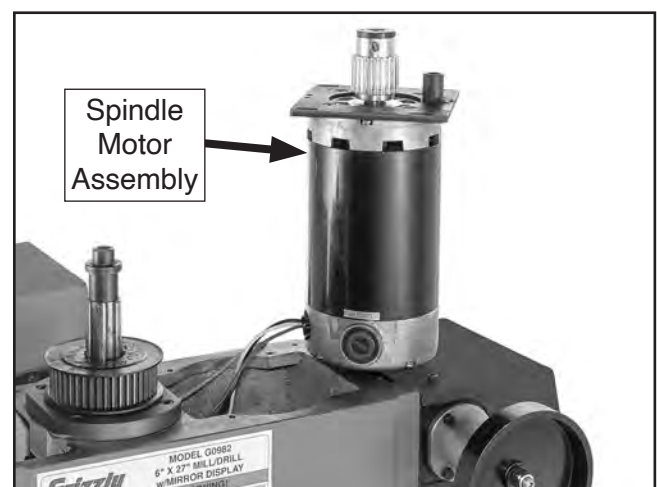

Figure 70. Location of spindle motor brush caps.
7. Lift entire spindle motor assembly out of headstock (see **Figure 70**).